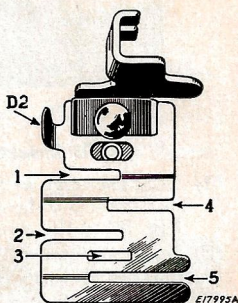

FIG. 52
The distance from the line of stitching to the edge of the material in the slots is regulated by moving the lug **D2**, **Fig. 52** to the right or left.
- (1) Insert one of the laces in slot 1 of the edge-stitcher and the other in slot 4, **Fig. 52**.
- (2) Adjust the lug **D2** until the edges to be joined are caught by the stitching.
- (3) Slightly overlap the edges of the lace while stitching to keep them against the ends of the slots.
- (4) Loosen both thread tensions to avoid puckering of fine lace.
- (1) Fold the edge of the material to which the lace or ribbon is to be sewn and insert it in the slot 1, Fig. 52 of the edge-stitcher.
- (2) Insert the lace or ribbon in the slot 4 of the edge-stitcher and proceed to sew.
- (3) Cut away the surplus folded material close to the stitching.
(1) Cut the piping bias and twice the width of the slot **3** so that it can be folded once.
(2) Insert the piping with its folded edge to the left in slot **3** and the edge to be piped in slot **4**, Fig. 52.
(1) Place the garment under the edge-stitcher and the tape in slot **1** or **4**, Fig. 52.
- (1) A wide hem may be stitched evenly on sheets, pillow slips, etc., with the edge-stitcher after the hem has been measured and the edge turned.
- (2) Insert the edge in slot 5, Fig. 52, and adjust the lug D2 to stitch as close to the edge as desired.
- (1) To make a uniform width French seam, insert the two edges to be joined, wrong sides together, in slot 1 or 2, Fig. 52 and stitch close to the edge.
- (2) Fold both right sides together and insert the back of the seam in the slot 1 and stitch, allowing just enough margin to conceal the raw edges.
- (1) Fold and crease the material for the desired width of tuck.
- (2) For succeeding tucks, fold the material the desired distance from the previous tuck, running the fold lengthwise over a straight edge, then crease the folds.
- (3) Insert the creased folds in the slot **1**, Fig. 52 and adjust the edge-stitcher to the right or left for the desired width of tuck. Use a light tension, short stitch and fine thread and needle.